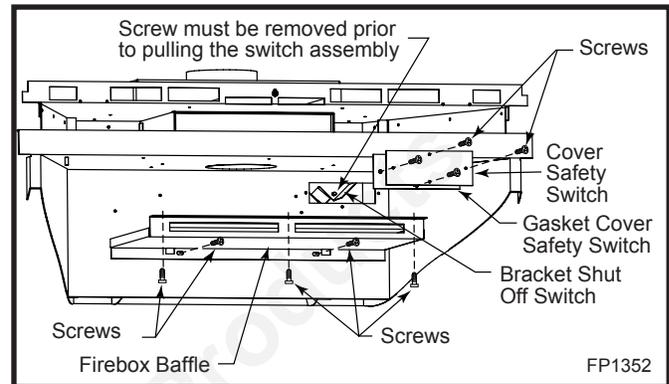

Fig. 14 Access to the blocked flue shut off switch from inside combustion chamber.
3. Remove the firebox baffle. (Fig. 14)
4. Remove the shut off switch cover fastened with four (4) screws located at the right upper corner of the firebox.